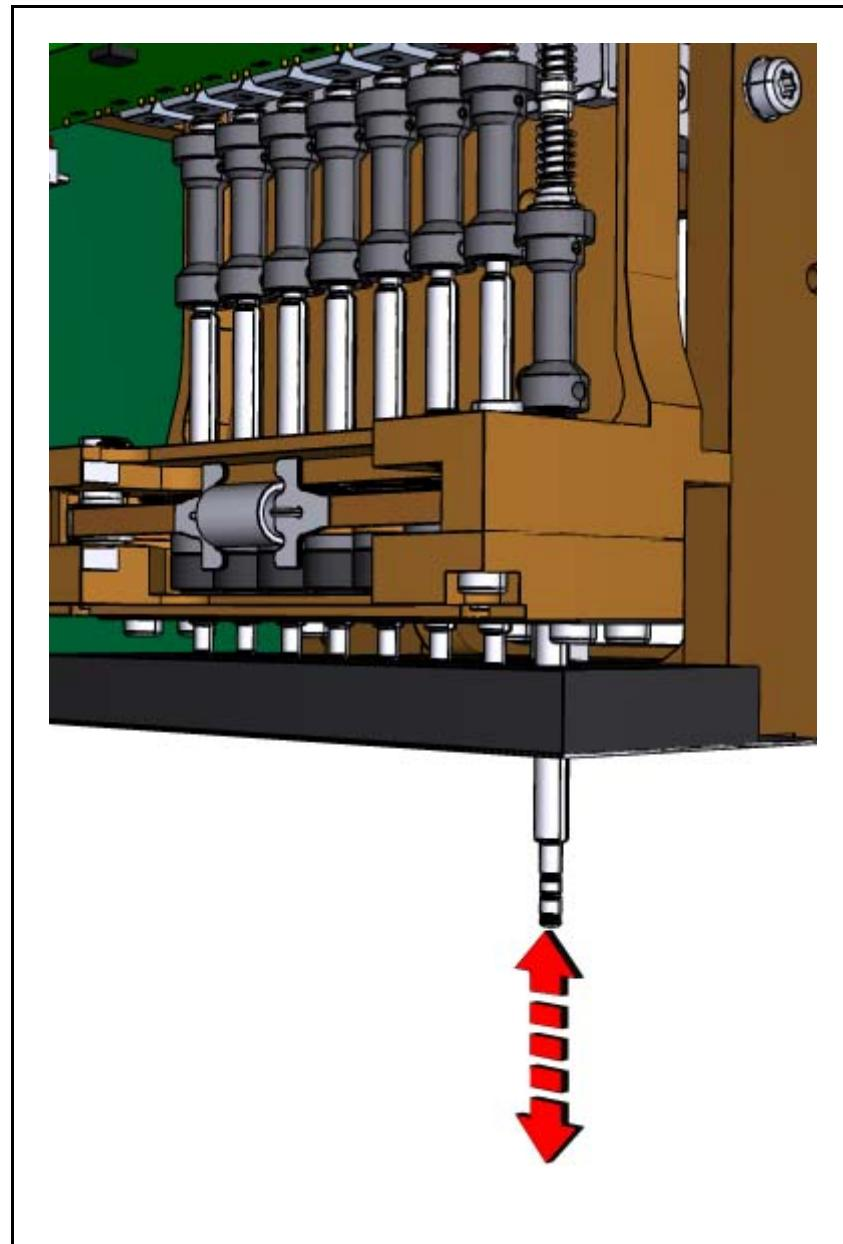

Figure 16-18. Check friction on tool tube.
5. When the tool tube is released and in its lower position, use a finger to rapidly push the tool tube up and down to make sure that the tool tube moves freely and with an even motion, see Figure 16-18.